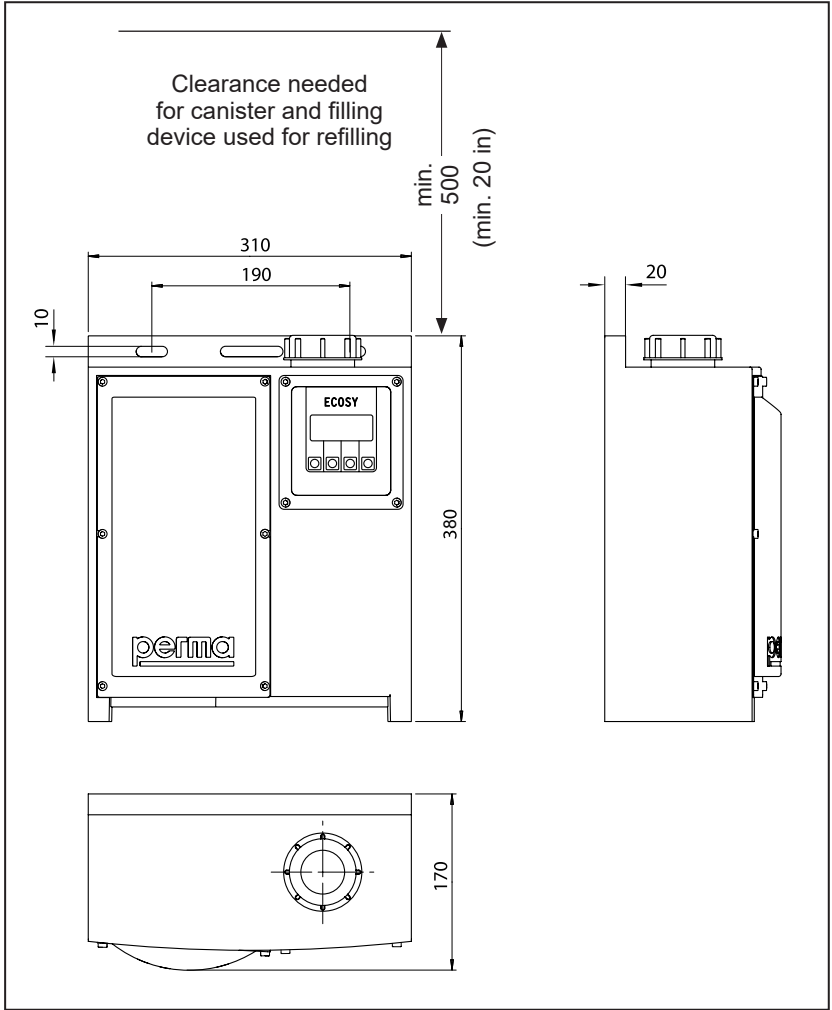

Fig. 3-3: External dimensions in mm
- Pay attention to the required clearance for the filling container and the filling device (Fig. 3-3).
- Bore the holes horizontally at a distance of 190 ± 5 mm (7.48 \pm 0.2 in) according to fig. 3-3 and fix the system with screws. Finger tighten screws and add a quarter turn.